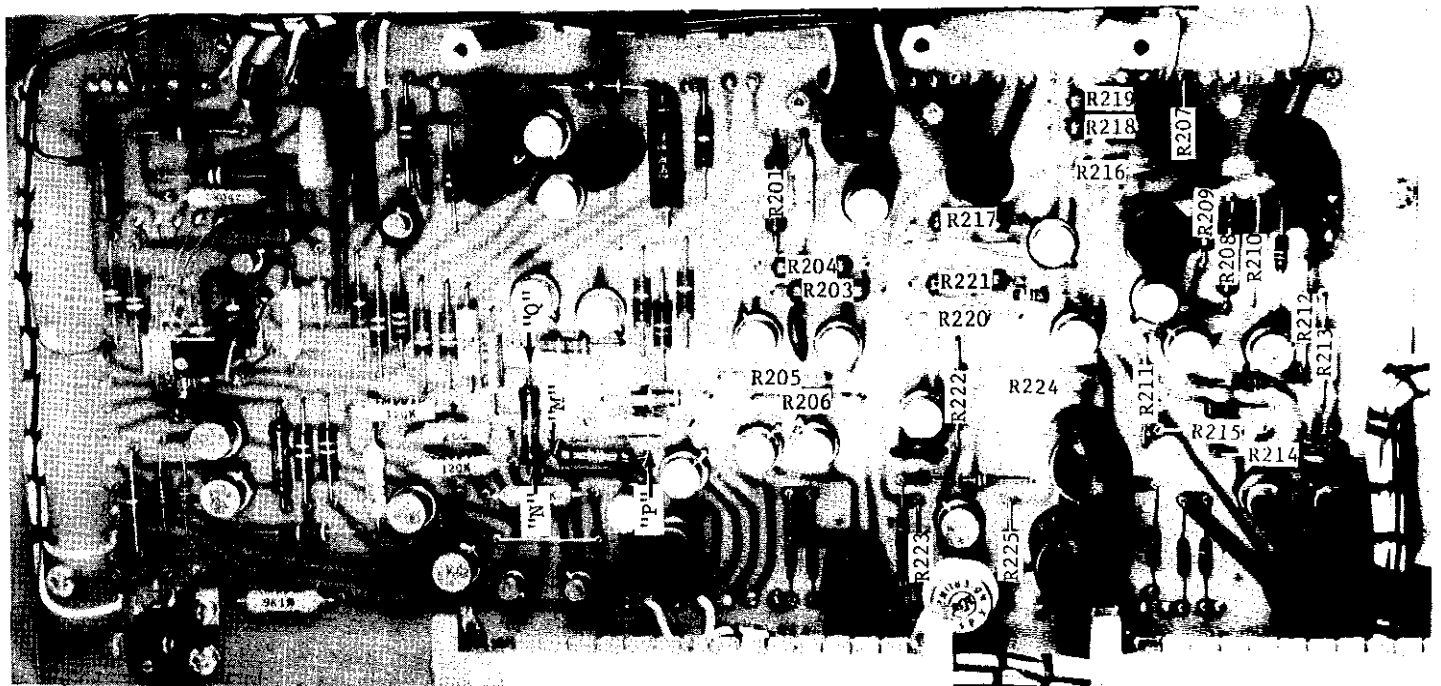

FIGURE 25. Resistor and Test Point Locations on Printed Circuit 76. Figure 24 contains callouts for the other resistors.
4. Connect the Type 503 Oscilloscope to the Model 148 OUTPUT. Set the oscilloscope amplifier to dc coupling, 0.2 volt/cm, time base to 0.1 or 0.2 second/cm. Set the Model 148 to the 0.1-microvolt range. Set the ZERO SUPPRESS COARSE Control to 1 to obtain a 0.1-microvolt signal. The response time (from 10% to 90% of final value) should be between 0.2 and 0.4 second. Adjust potentiometer R109 (Figure 25) for this value.
6. After calibrating the amplifier, adjust the input voltage (or zero suppression) for full-scale outputs as shown on the differential voltmeter, on any range from 1 microvolt and above. Adjust potentiometer R136 (Figure 25) for exactly full-scale meter deflection.